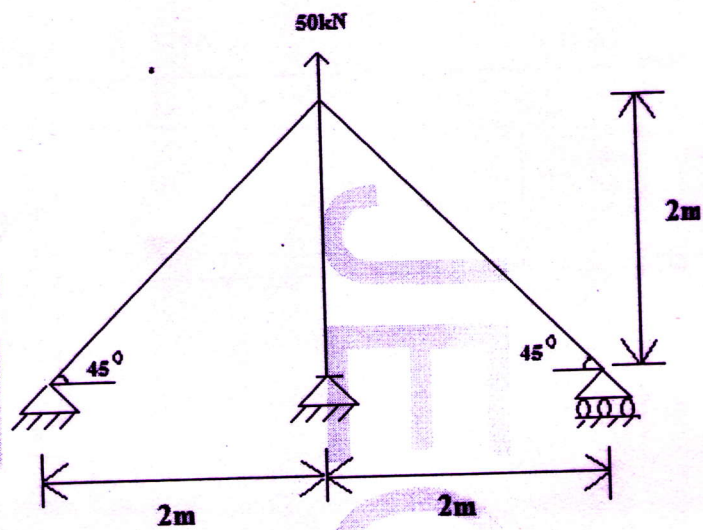

Fig. 6
- 16 Determine the member forces in the truss shown in Fig.6 using stiffness method. (14)